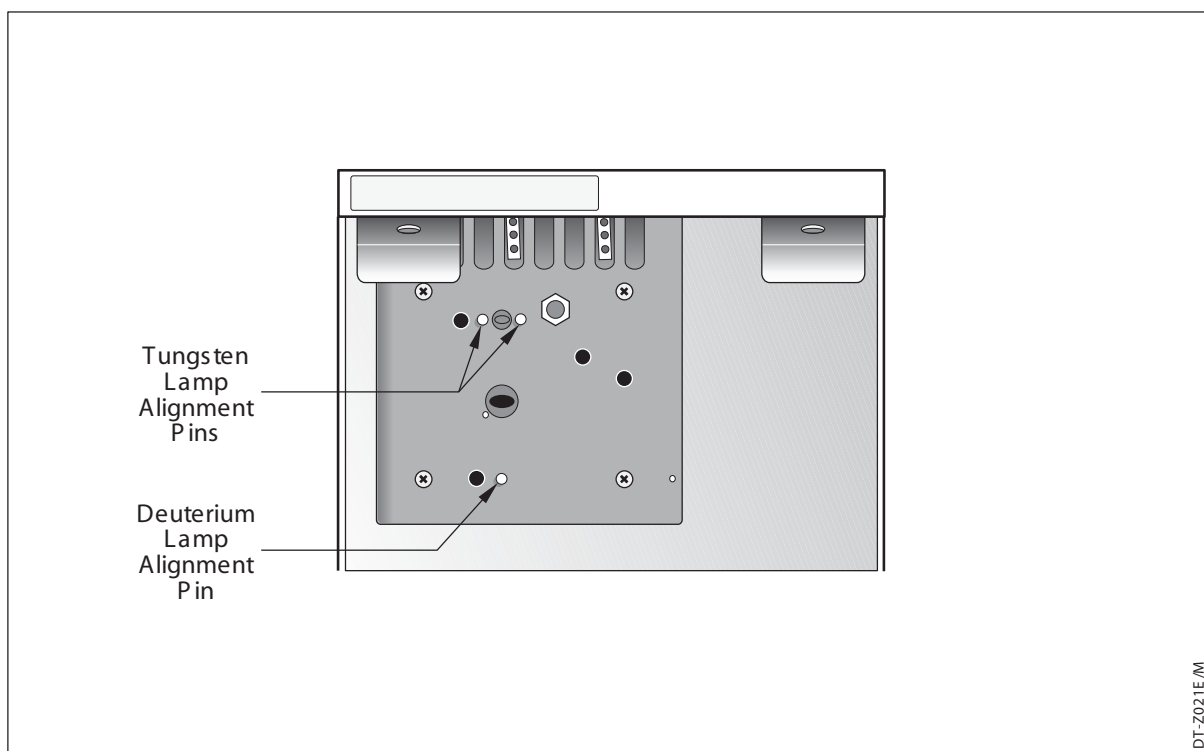

Figure 3.7 Deuterium and tungsten lamp alignment pins
1. Hold the deuterium lamp assembly so that the leads are at the top. Slide the assembly onto the alignment pin shown in Figure 3.7. (The alignment pin is located directly below the detector's monochromator aperture.)
1. Hold the lamp assembly so that the leads are at the top. Slide the assembly onto the two alignment pins shown in Figure 3.7. (The alignment pins are located on either side of the detector's monochromator aperture.)